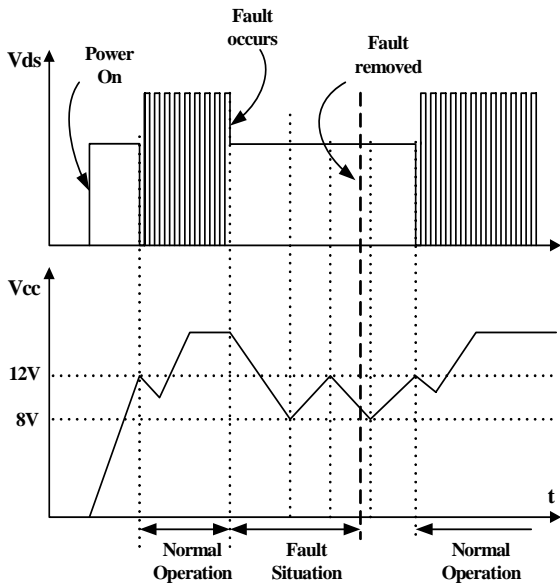

Figure 19. Auto Restart Operation
**3. Protection Circuit:** The FSCM0565R has several self protective functions such as over load protection (OLP), over voltage protection (OVP) and thermal shutdown (TSD). Because these protection circuits are fully integrated into the IC without external components, the reliability can be improved without increasing cost. Once the fault condition occurs, switching is terminated and the SenseFET remains off. This causes Vcc to fall. When Vcc reaches the UVLO stop voltage of 8V, the current consumed by the FSCM0565R decreases to the startup current (typically 25uA) and the current supplied from the DC link charges the external capacitor ( $C_a$ ) that is connected to the Vcc pin. When Vcc reaches the start voltage of 12V, the FSCM0565R resumes its normal operation. In this manner, the auto-restart can alternately enable and disable the switching of the power SenseFET until the fault condition is eliminated (see Figure 19).